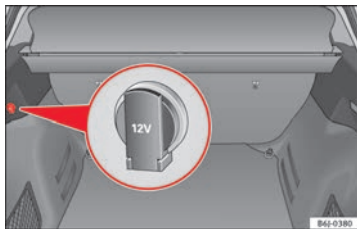

Fig. 93 Detailed view of the side trim in the luggage compartment: 12 volt socket
- Lift the power socket cover ⇒ Fig. 93.